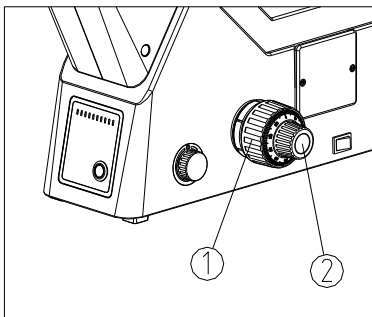

Fig. 14
(1) Put the specimen on the circular central stage, then shift the 4X or 10X objective into the light path.
(2) Align the scale "0" of the diopter ring on the diopter adjustable eyepiece with the scale of the eyepiece sliding base (see 3-5 Adjust the Diopter). Observe the eyepiece, and rotate the coarse focusing knob (1) until the image outline appears in the view field. (See Fig.14)
(3) Rotate the fine focusing knob (2) for clear details.